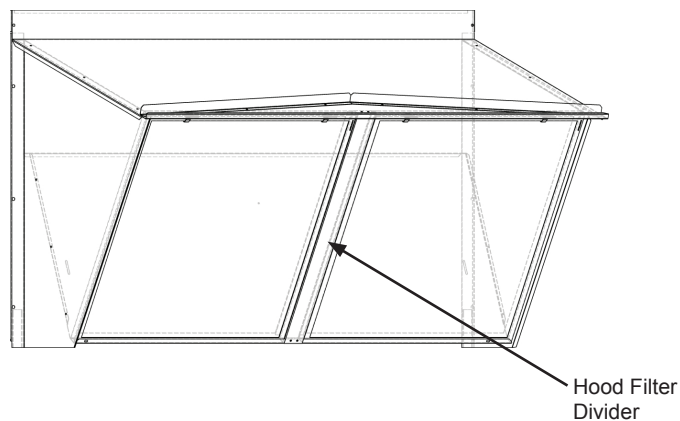
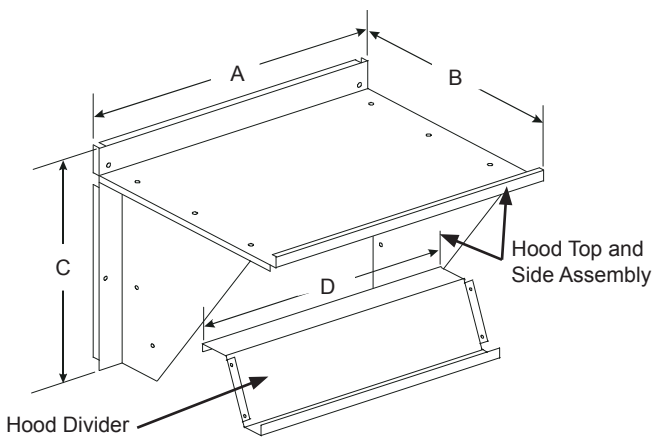

Fig. 4A - Hood for Extra Large Cabinet
Fig. 3 - Hood Assembly
5. Insert the hood divider between the hood sides. (See Fig. 3) Secure hood divider with 2 screws (provided) on each hood side. Screws should go through the hood sides into the divider. The hood divider is also used as the bottom filter rack for the aluminum filter. On hood for extra large cabinet install filter divider. (See Fig. 4A.)